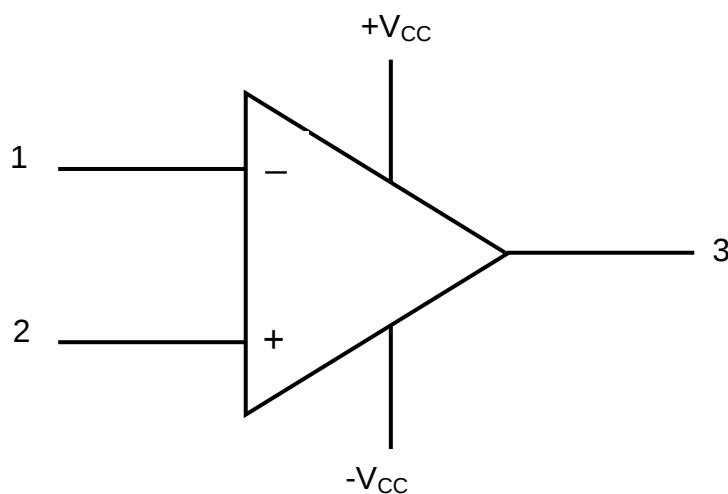

FIGURE 7.1: OP-AMP SYMBOL
- 7.2 FIGURE 7.1 below is the symbol of an op-amp. Identify the labels marked **1**, **2** and **3**.